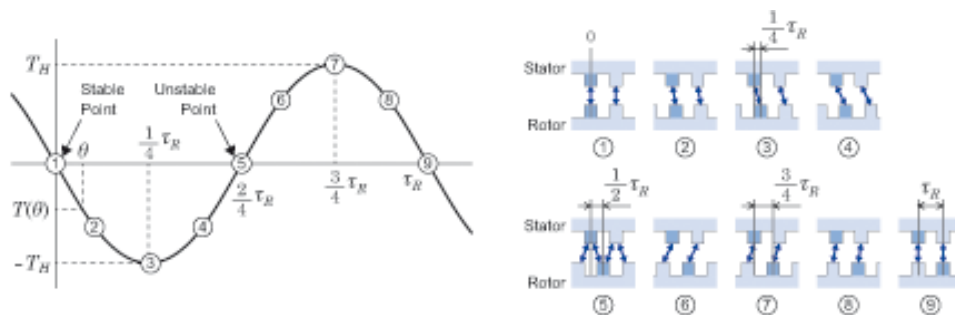

Fig. 7: Angular torque characteristic of a stepper motor.
The stator and rotor of a stepper motor are provided with small teeth. When the winding (coil) of a stator pole is energised, the teeth of the stator and rotor attract each other and face each other at the end. If you apply a torque to the shaft of a stationary motor, the shaft can be rotated slightly. This relationship between torque and the angle of rotation of the shaft is called the angle-torque characteristic (Fig. 7). During the closing movement of the gripper fingers, the torque shown in the phases ① -③ can now be used. The fingers grip the workpiece with a minimally shorter distance than the workpiece dimension, which generates the gripping force. This process is controlled with the help of the operating current value. This method of generating the gripping force is recommended for small workpieces and for a gripping force of less than 6 N, as it is difficult to operate under pressure in this range.